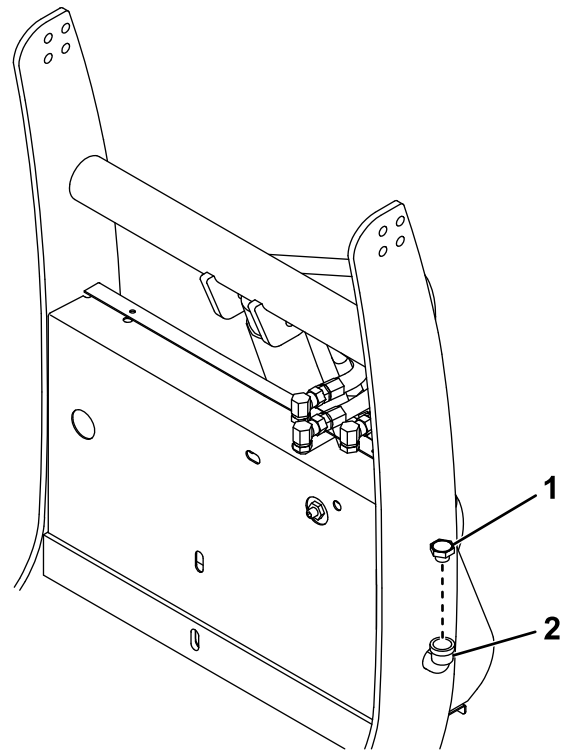

Figure 18
3. Remove the fill cap from the hydraulic reservoir (Figure 18).